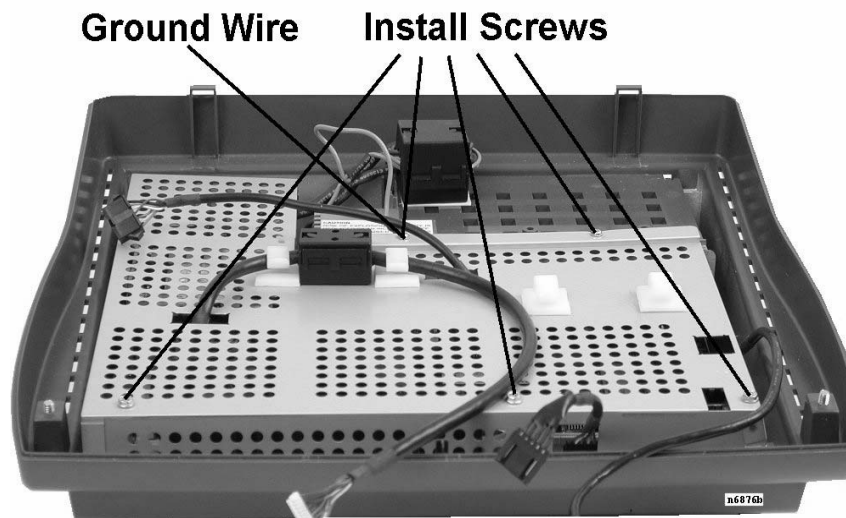

Figure 2-23: Securing the RF Shield and Fastening the AC Ground Wire
4. Fasten the RF shield screws. Figure 2-23. Be sure to install the ground wire fastened with left rear shield screw.